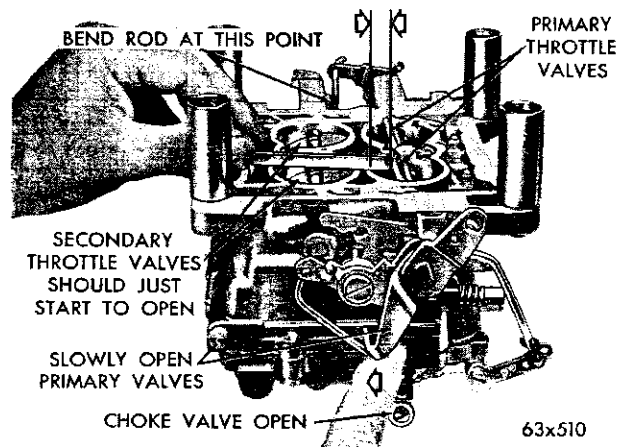
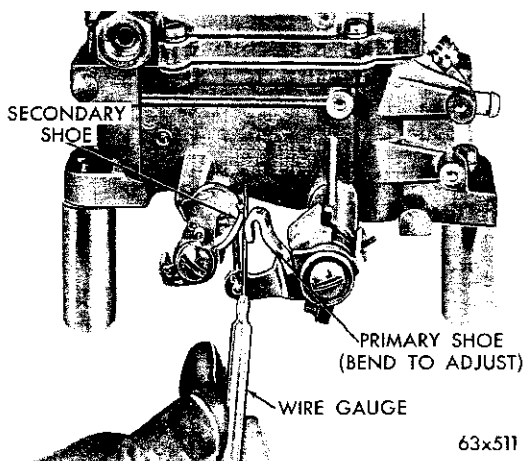

Fig. 53—Measuring the Secondary Throttle Opening
Fig. 54—Measuring the Clearance Between Closing Shoes
(1) To measure the secondary throttle lever adjustment, block the choke valve in the wide open position and invert the carburetor.
(2) Slowly open the primary throttle valves until it is possible to measure $\frac{3}{8}$ inch between the lower edge of the primary valve and the bore (opposite idle port) as shown in Figure 53. At this measurement, the secondary valves should just start to open.
(3) The stop lugs on both the primary and secondary throttle levers should contact the bosses on the flange at the same time.
(4) If an adjustment is necessary, bend the secondary throttle operating rod at the angle, using Tool T109-213, until correct adjustment has been obtained.
(5) At wide open throttle, the primary and secondary throttle valves should reach the full vertical position.
(6) With the primary and secondary throttle valves in the tightly closed position, it should be possible to insert Tool T109-29 (.020 inch) wire gauge, between the positive closing shoes on the secondary throttle levers, as shown in Figure 54.
(7) If an adjustment is necessary, bend the shoe on the secondary throttle lever, using Tool T109-22, until correct clearance has been obtained.